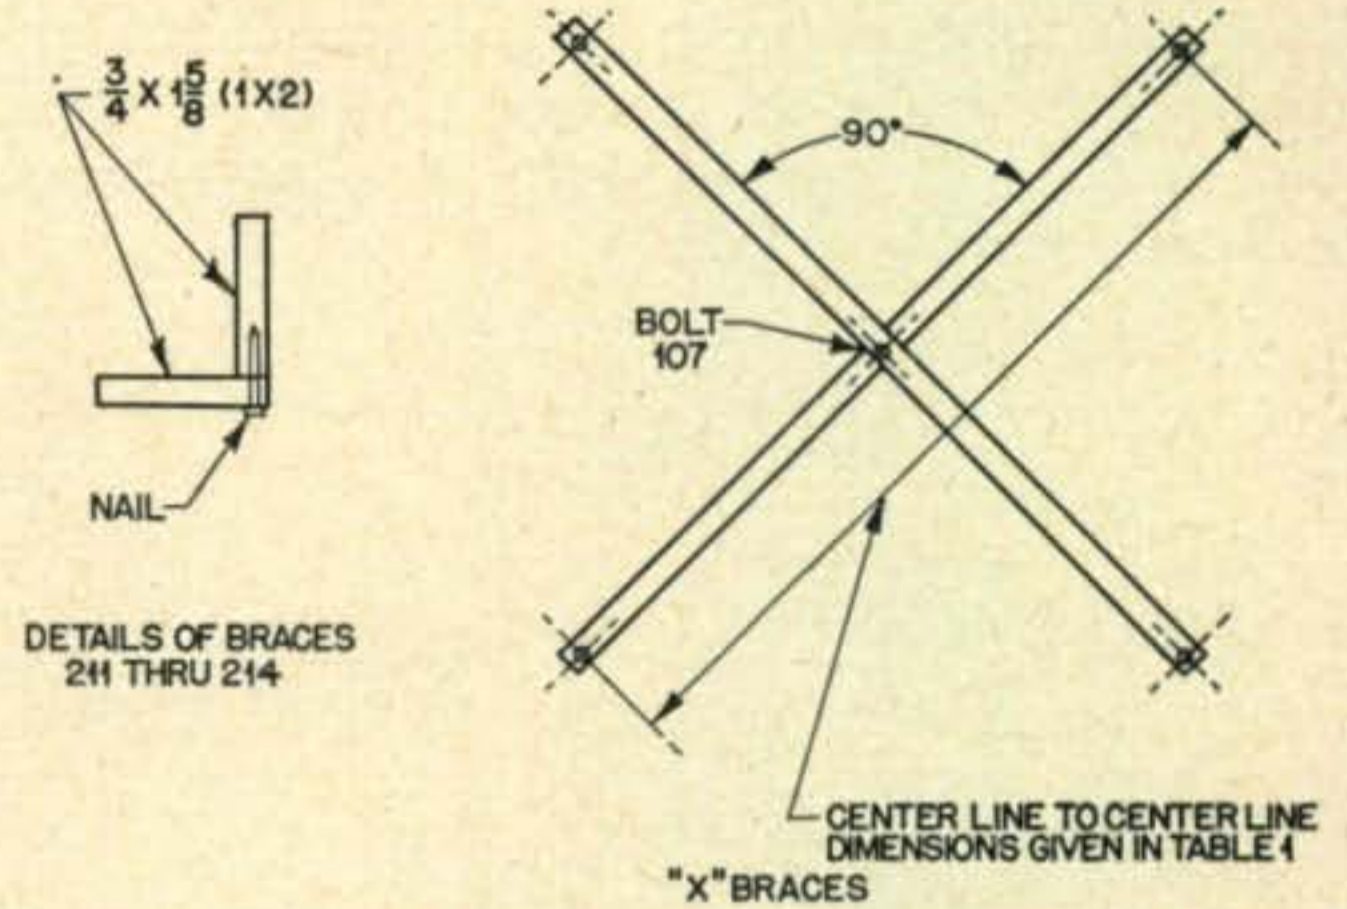

Fig. 7.
a 2 x 2, which will be the second section of the tower leg. (See *fig 5a*). Be sure this notch is in the center of the 2x4 and don't split it! Next obtain 8-8 foot 2" x 2" (2x2) and 4-10 foot 9 inch 2" x 2" (2x2). These 16 pieces form the four legs being 2 x 4, 2 x 2, 2 x 2, 2 x 2 for each leg. The cross (X) bracing ties the legs together and gives the strength required. These X braces are cut to length and drilled in pairs. *Fig 7* shows a typical brace. All lumber must be free of knots, preferably No. 1 select grade, have a good tight grain, be straight and have no defective places that will weaken the structure. Actually we used No. 2-2x4 for our legs with some partial knots, because nothing else was available and we have absolutely no trouble, but it would be best where possible to use No. 1 select grade, which means that you can select the pieces. If you treat that lumber-man correctly and tell him what you want without using the term select you will usually get the select grade without paying the extra price for it.